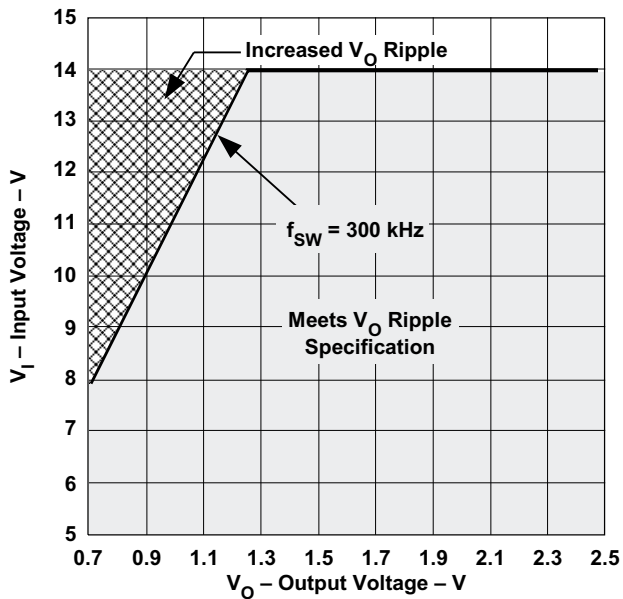
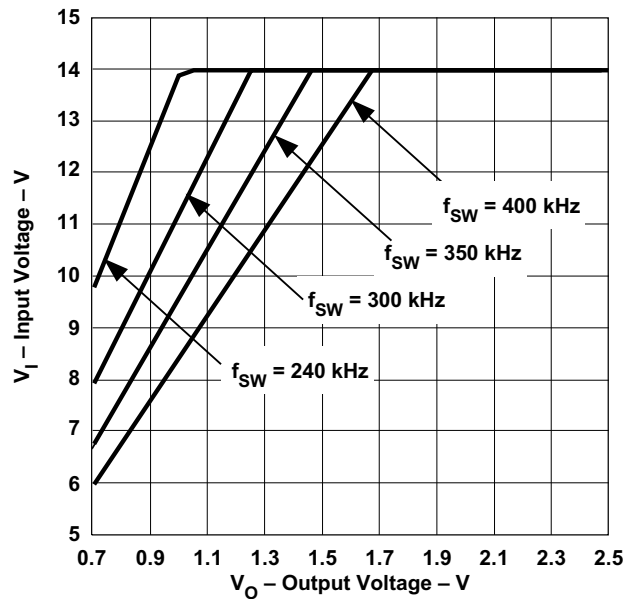

Figure 25. V_O Ripple Regions at 300 kHz
Figure 26. V_O Ripple Regions
Synchronizing to a higher frequency and operating with a low duty cycle may impact output voltage ripple. When operating at 300 kHz, Figure 25 shows the operating region where the output voltage ripple meets the electrical specifications and the operating region where the output voltage ripple may increase. Figure 26 shows the operating regions for several switching frequencies. For example, a module operating at 400 kHz and an output voltage of 1.2 V, the maximum input voltage that meets the output voltage ripple specification is 10 V. Exceeding 10 V may cause in an increase in output voltage ripple. As shown in Figure 26, operating below 6 V allows operation down to the minimum output voltage over the entire synchronization frequency range without affecting the output voltage ripple. See the ELECTRICAL CHARACTERISTICS table for the synchronization frequency range limits.
- A. For Figure 25, operation above a given curve may cause the output voltage ripple to increase (typically $2\times$).
- B. For Figure 25, when operating at the nominal switching frequency refer to the 300 kHz plot.
- Changed made Figure 25 viewable 27
- Changed made Figure 26 viewable 27